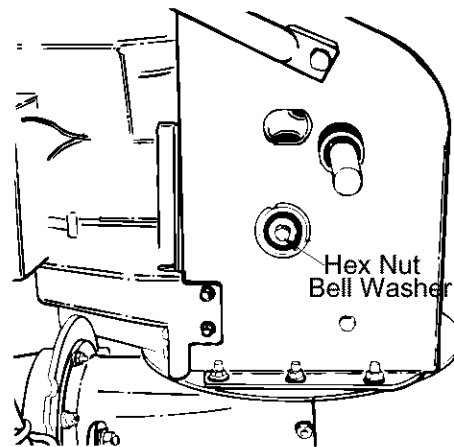

Figure 29
5. Using a 9/16" wrench to hold the shaft, loosen, but do not completely remove, the hex nut and bell washer on left end of gear shaft. See Figure 29.